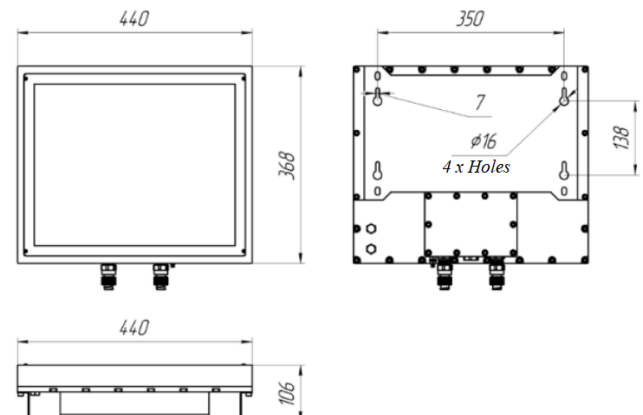

Figure 1. Overall dimensions of the MV-150(S)
- Basic dimensions at the processing facilities correspond to the dimensions of the MV-150(S) (see Fig. 1);